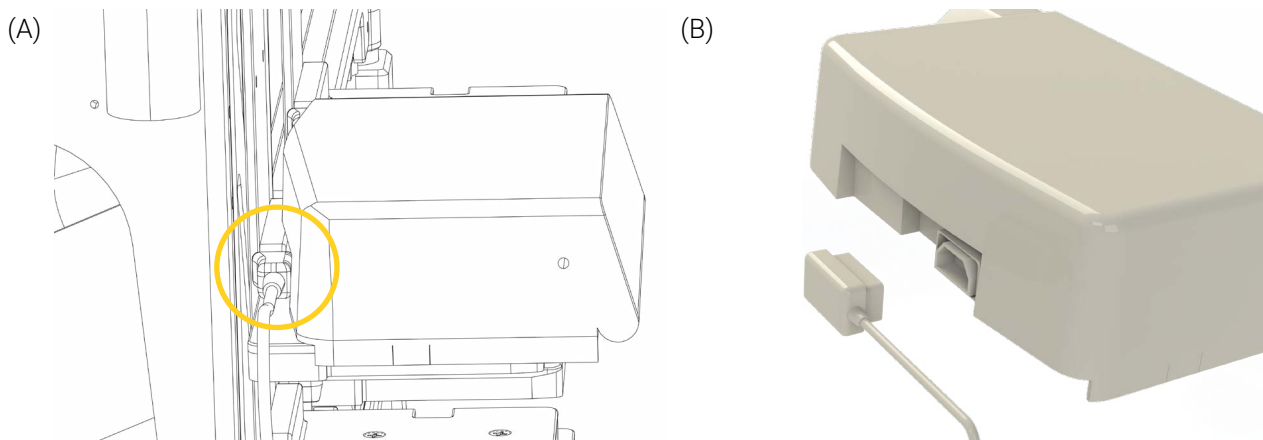

Figure 18: Unplugging the B. Braun Infusomat Space infusion pump
1. Unplug the pump from the back (Figure 18).